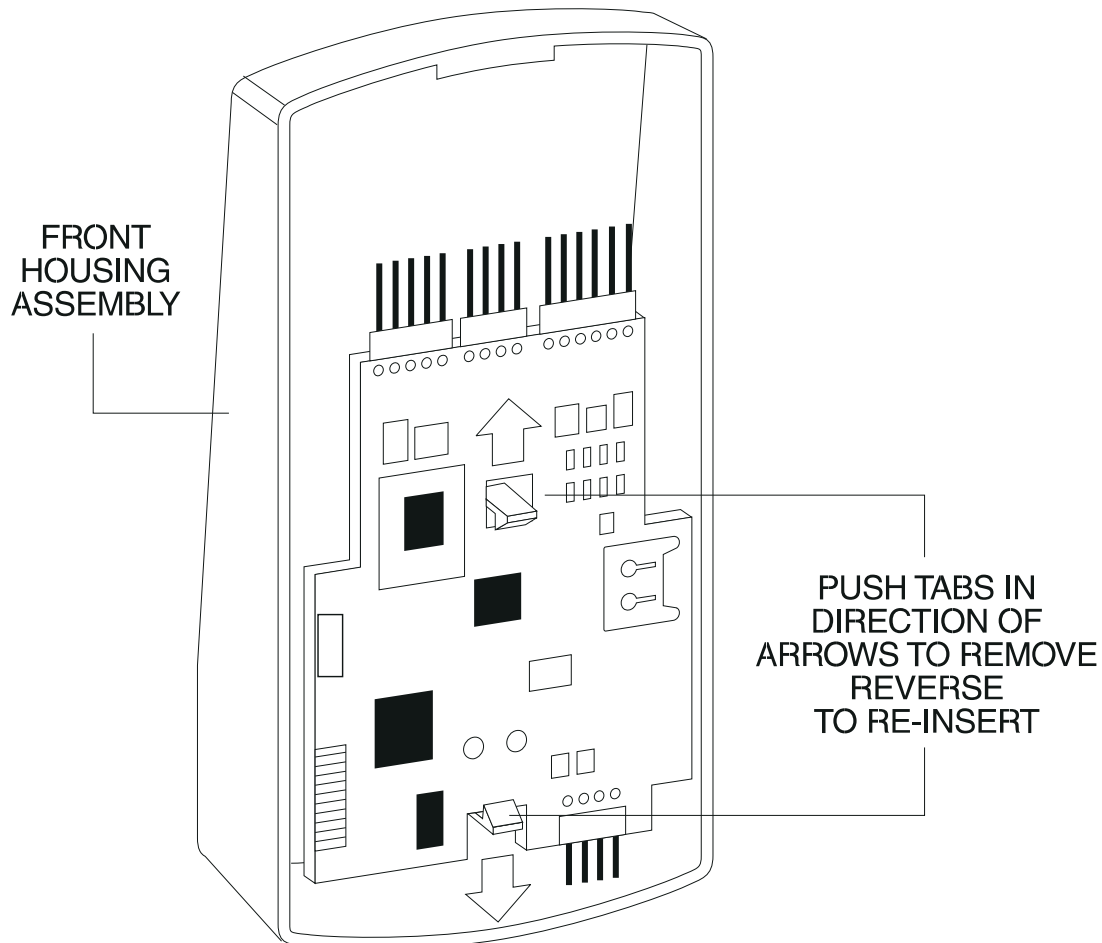

Figure 3 Removing/Inserting Printed Circuit Board
- **When handling the main printed circuit board, to guard against possible static discharges, touch a grounded object BEFORE touching the prox.pad plus unit.** Remove the main printed circuit board by pressing the two spring tabs in the direction of the arrows as shown in Figure 3. Be careful with the wires.
Remove the main printed circuit board by pressing the two spring tabs in the direction of the arrows as shown in Figure 3. Be careful with the wires.